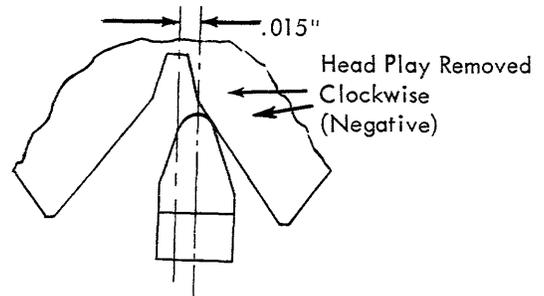

FIGURE 74. Type Head Homing
8. Preliminary Typehead Homing - Half-cycle the machine using an upper case zero rotate (latched home) character. Loosen the set screw in the bottom of the rotate pulley and slip the typehead so that the detent will enter  $.010$ " to  $.020$ " from the center of the detent notch, on the negative side of the notch, when the head play is lightly removed in the negative direction (Fig. 74).